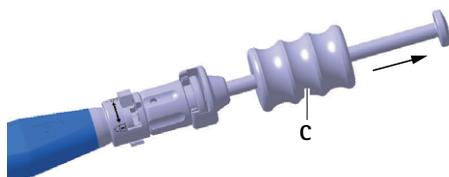

Fig. 6 Expelling the trial implant/implant with the impact cylinder
- ▶ Carefully expel the trial implant D using the impact cylinder C out of the intervertebral space, see Fig. 6.
- ▶ Carefully expel the implant **a** using the impact cylinder **C** out of the intervertebral space, see Fig. 6.